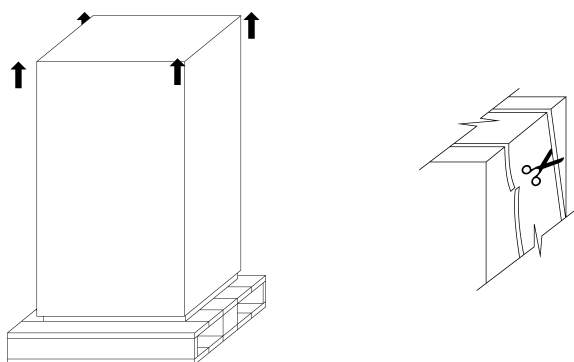

Fig 1 . Unpacking Process (Box)
- Removing the box requires the cling wrap and straps to be cut, then expose the cabinet by carefully sliding the box upwards. (Fig 1)